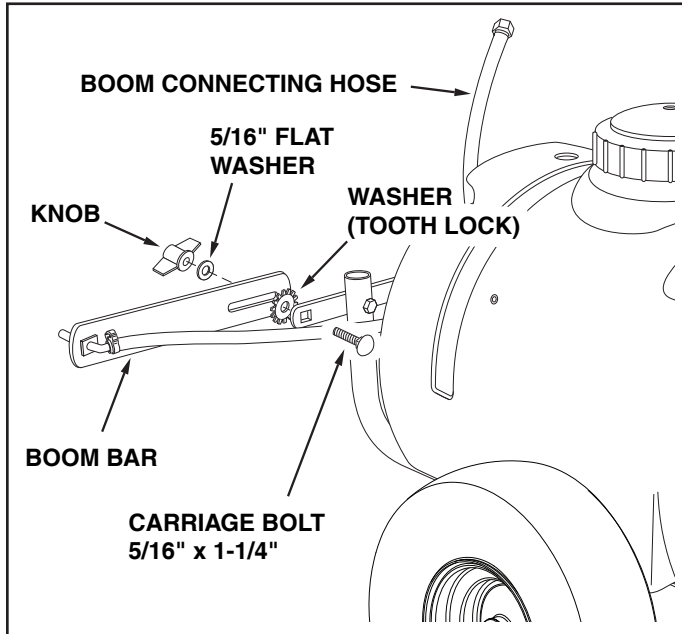

FIGURE 5
9. Assemble the boom bars to the boom mount bracket using two 5/16" x 1-1/4" carriage bolts, tooth lock washers (between the bar and bracket), 5/16" flat washers and knobs. The boom connecting hose should extend upward. See figure 5.